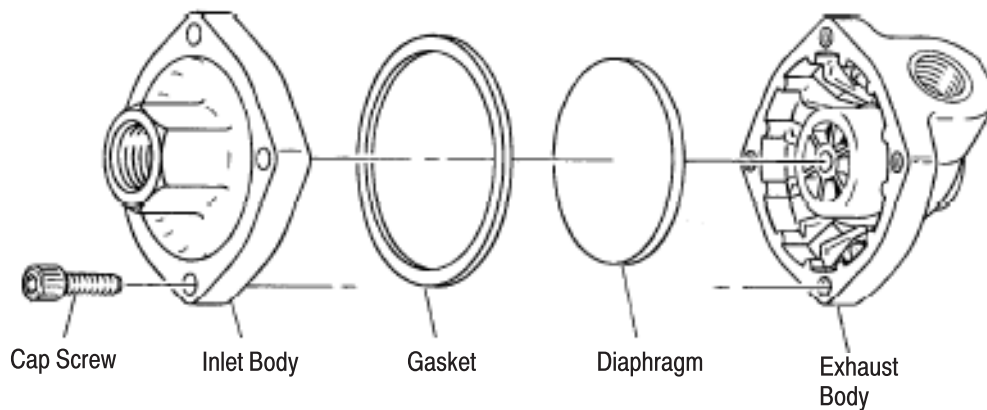

Figure 6
7.4. Repair and Replacement (Figure 6)
There are no special procedure required for replacement of parts in the air feed assembly. Refer to the included drawings and parts list for detail parts identification. In the event it is necessary to repair the quick-exhaust valve, install the valve repair kit No. 22989-1 (diaphragm and gasket) as shown in Figure 6. Should it be necessary to replace the air feed cylinder, use the replacement parts as shown in Figure